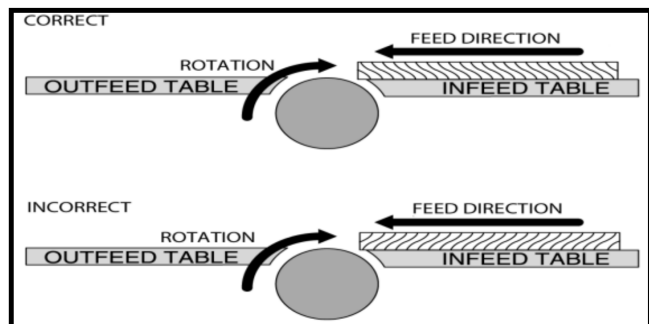

Figure 27: correct Jointing Grain Direction.
- Wood Selection: **Only cut natural wood with the machine**, avoiding materials such as MDF, particle board, plywood, laminates, metals, glass, stone, tile, products with lead-based paint, or those containing asbestos, as using the machine on these materials may lead to injury or machine damage. See figures 27, 32 for proper grain orientation.